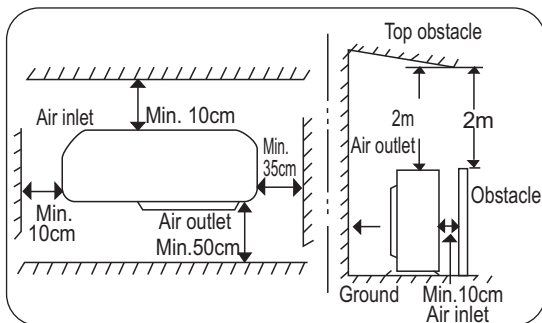

Fig. 8.1
- Have required space for air inlet, outlet and maintenance. (Figure 8.1)